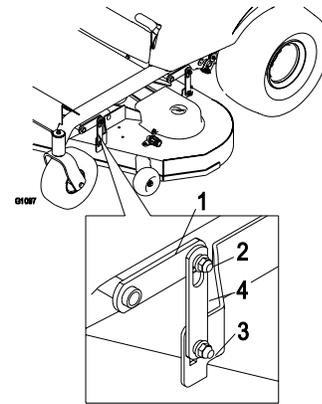

Figure 44
7. Loosen the leveling adjust locking nuts (item 3) on all four corners so that the deck is sitting securely on all four blocks. Make sure that the deck hangers are all the way down (at the top of the slot) and the deck lift foot lever is pushed back against the stop, then tighten the four leveling adjust locking nuts (Figure 44).